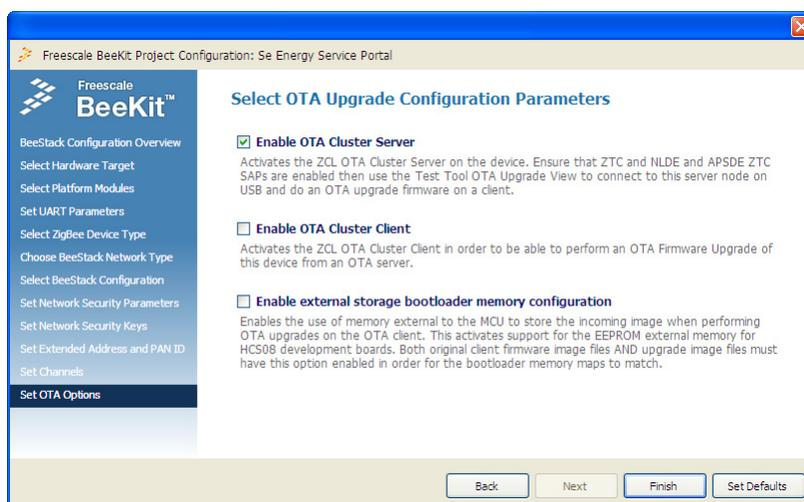

Figure 10-1. Enabling OTA Cluster Server on SE Energy Service Portal Coordinator
- Enable OTA Server Cluster on the SE Energy Service Portal project as shown in Figure 10-1.